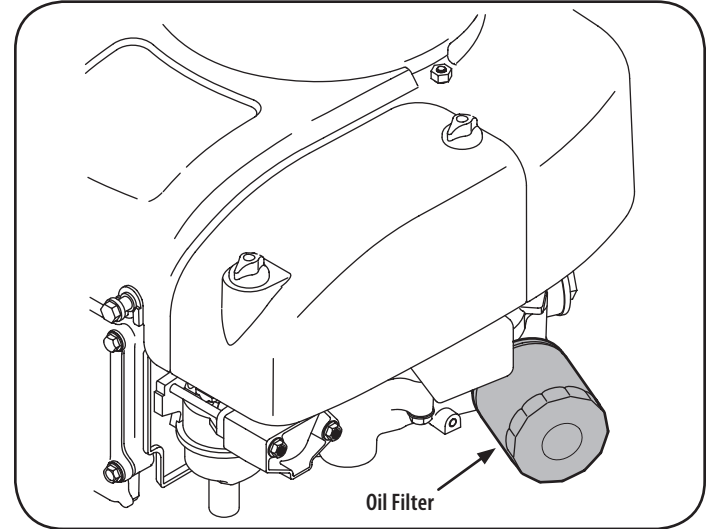

Figure 28
This engine is equipped with a spin-on oil filter that should be replaced each time an oil change is performed, every season or 50 hours. Refer to Figure 28.
2. Remove the oil filter. Dispose of the old oil filter properly. See Figure 28.